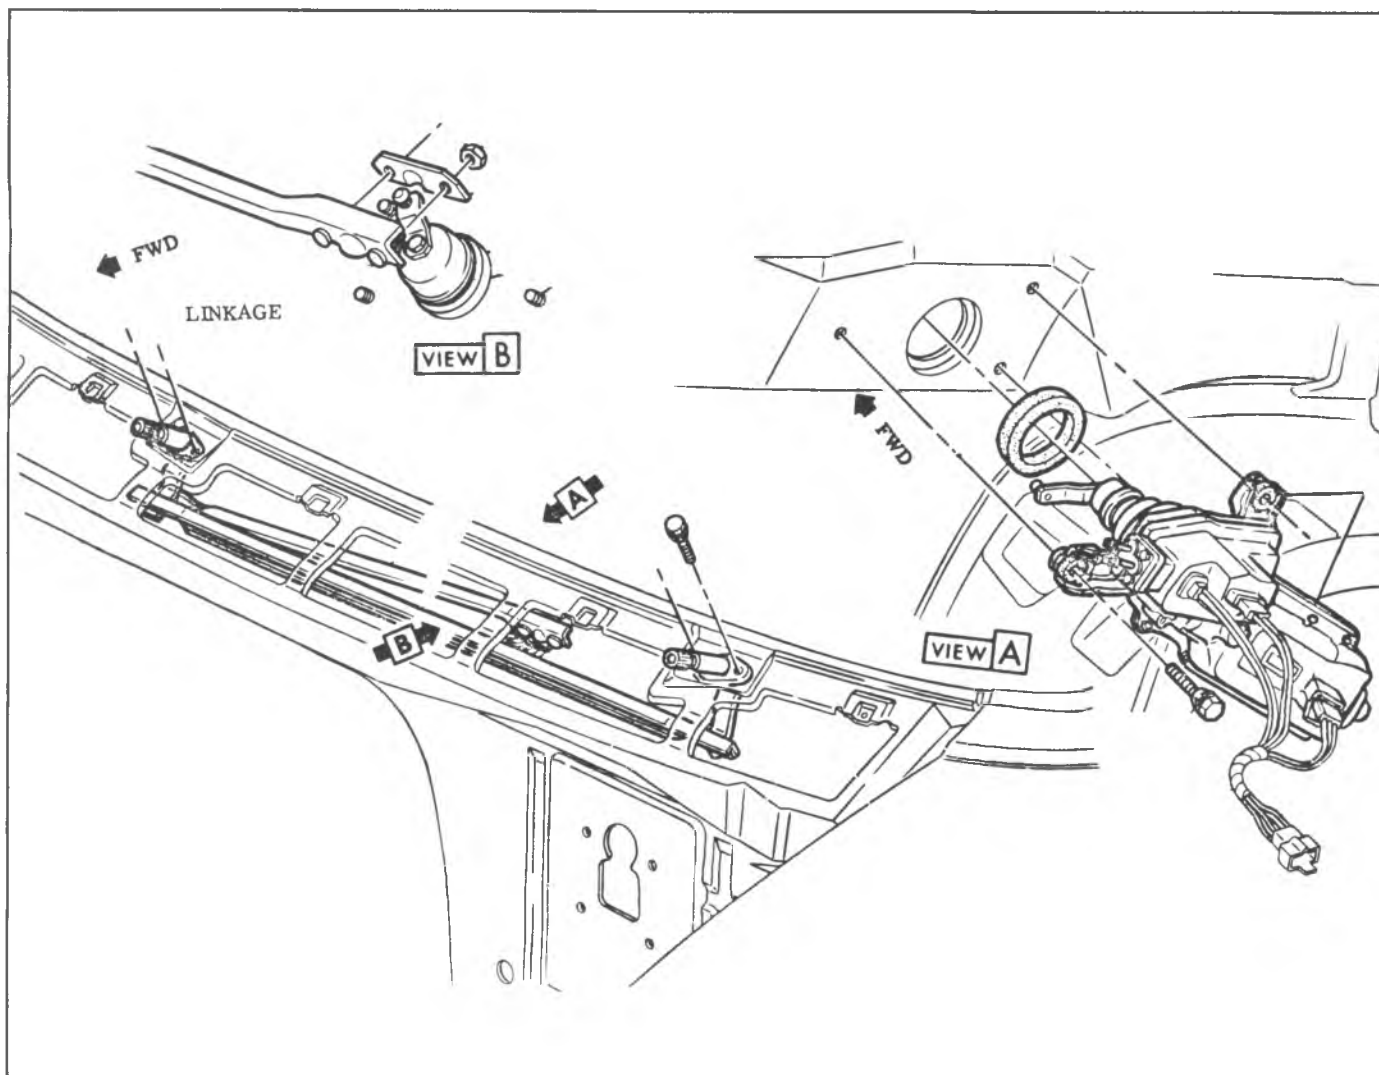

Fig. 8C-18--Wiper Motor (G Series)
1. Release brush spring tension figure 8C-21 and slide brushes back in their respective brush holders.
2. Assemble armature in end cap assembly and reposition brush spring legs behind their respective tabs, figure 8C-22.
3. To maintain the end cap in its assembled position on armature shaft during re-assembly of armature in the wiper housing proceed as follows: Using small wire such as tag wire, tie armature to end cap assembly as shown in figure 8C-23.
#### CRANK ARM, SPACER, SEAL Refer to Figure 8C-24